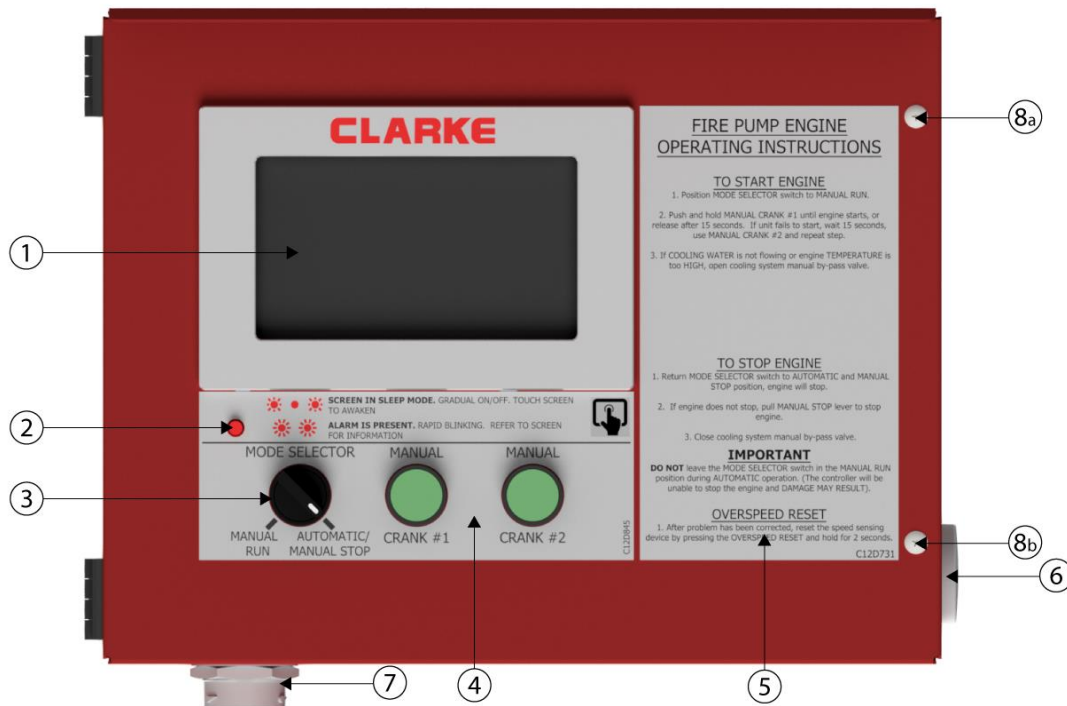

Figure 2-1
The Panel Status LED Indicator (*Figure 2-1 item 2*) is located below the touch screen display.
The Engine Mode Selector Switch (*Figure 2-1 item 3*) is located below the Panel Status LED Indicator.
The Manual Crank #1 and Manual Crank #2 buttons (*Figure 2-1 items 4*) are the right of the Mode Selector Switch. Only when operating the engine in the manual mode, these buttons are used to start the engine on start circuit 1 or 2 separately. The starters should not be engaged for more than 15 seconds.
The Operating Instructions Label (*Figure 2-1 item 5*) is to the right of the Manual Crank buttons and touch screen display. The label includes instructions on how to run the engine in the manual mode, a warning for the mode selector switch and overspeed reset instructions.
The Field Service Wiring Entrance (*Figure 2-1 item 6*) for the pump controller interconnect wiring is located on the right side of the TSP enclosure. Use the dedicated entrance, do not drill into the panel enclosure to prevent possible damage and ensure longevity of the TSP. When ready to install wiring, the hole plug is removed and a 1" (25mm) conduit fitting can be secured to the hole. **IMPORTANT:** Modifications to the enclosure voids engine panel warranty.
The Engine Harness Connector (*Figure 2-1 item 7*) is located on the bottom side of the TSP. The Panel uses this twist lock connector to connect to the engine harness to communicate with the engine sensors. This connector should never be removed unless diagnosing possible connection faults.
On the front of the panel, towards the right-hand side are two **Access Screws** (*Figure 2-1 items 8a and 8b*). Using a Philips head screw driver, you can loosen the access screws and open the enclosure to access more panel components.